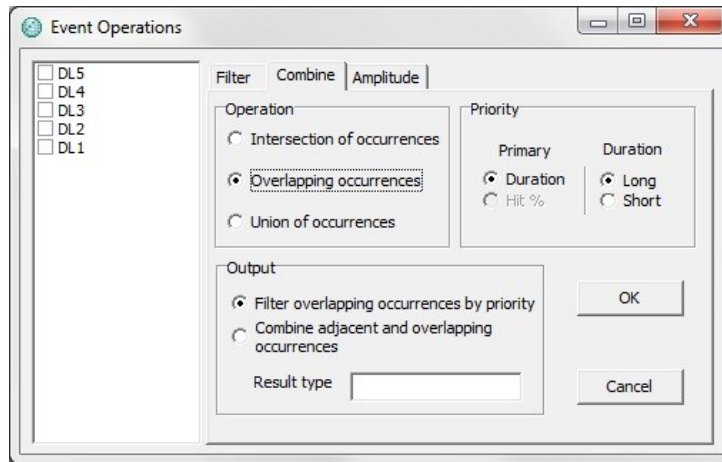

Figure 11.24 Overlapping occurrences
**Overlapping occurrences:** Check this option to find overlapping occurrences (see figure 11.24). The resulting pattern types cannot intersect.